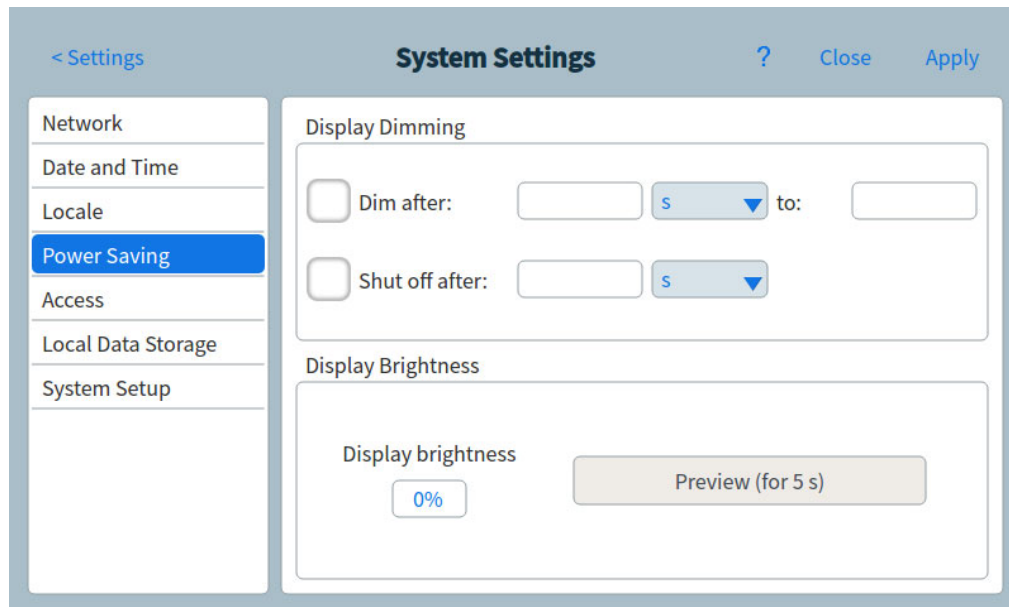

Figure 51. Power Saving page
- 1 From the System Settings page, select the **Power Saving** page selection button. The Power Saving page appears. See Figure 51.